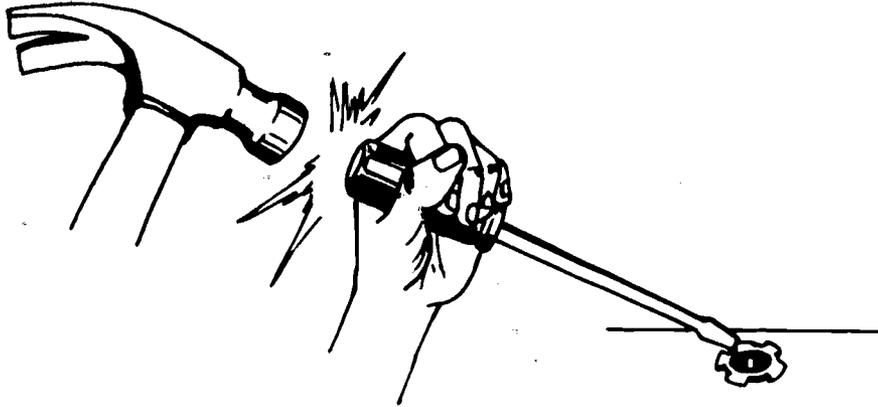

FIGURE 9
5. Tighten locknut securely (Figure 9)